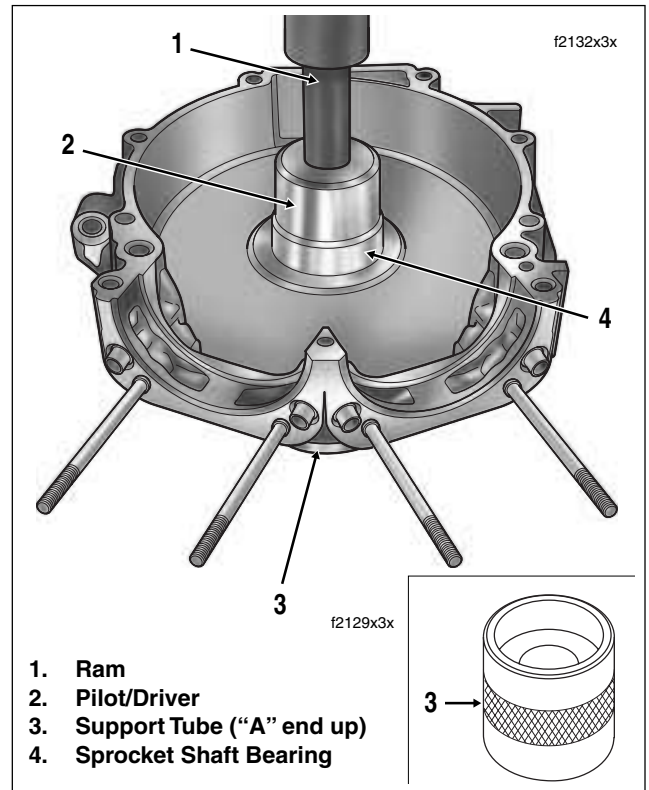

Figure 3-126. Install Sprocket Shaft Bearing
4. See Figure 3-126. Obtain **new** sprocket shaft bearing and apply a thin film of clean engine oil to O.D.